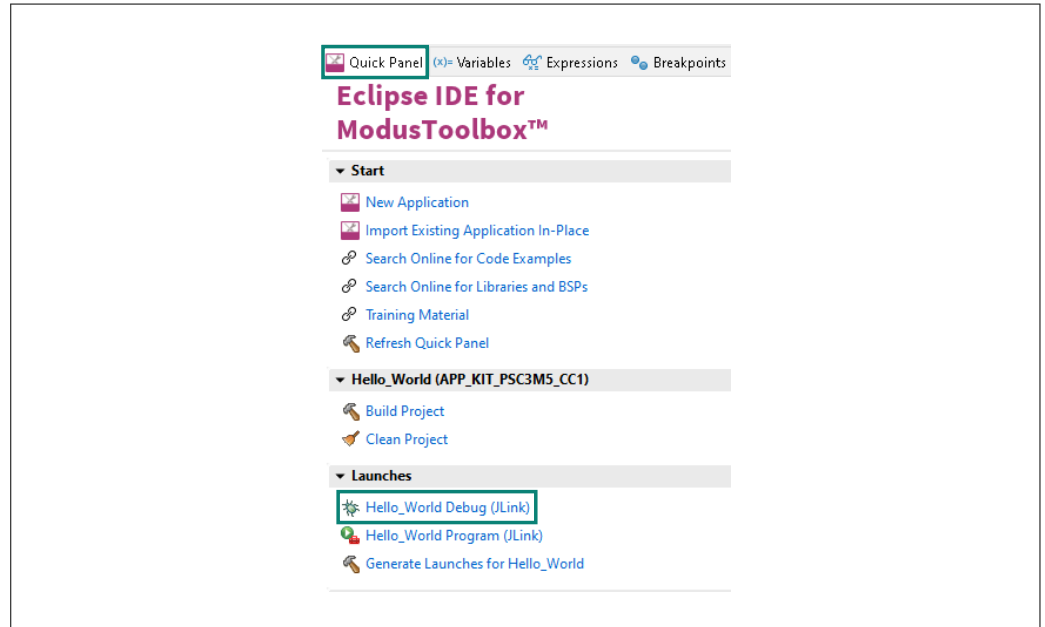

Figure 9 Debugging in ModusToolbox™ software
- b. In the **Quick Panel**, click the **<App_Name> Debug (JLink)** configuration from the **Launches** section, as shown in Figure 9